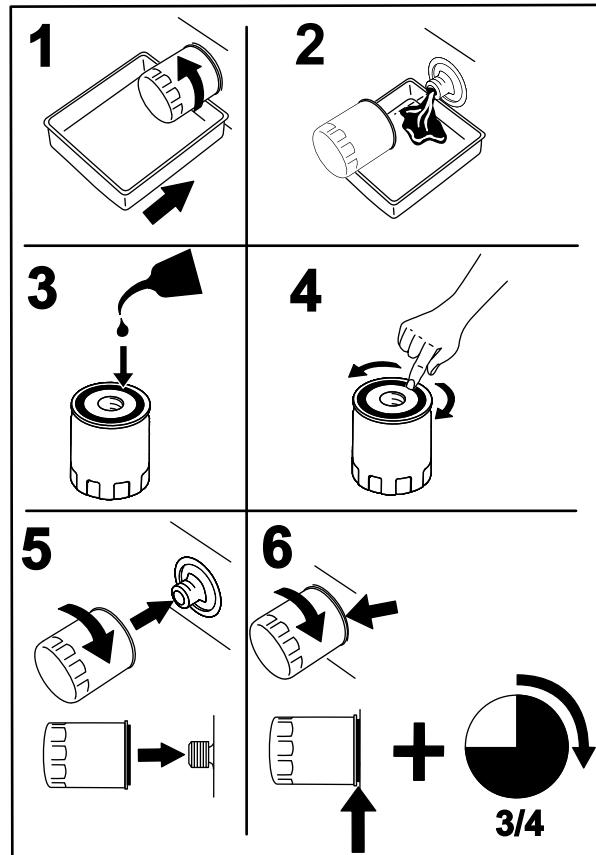

Figure 39
- Place a drain pan under the oil filter, and turn the filter counterclockwise to remove it (Figure 39).